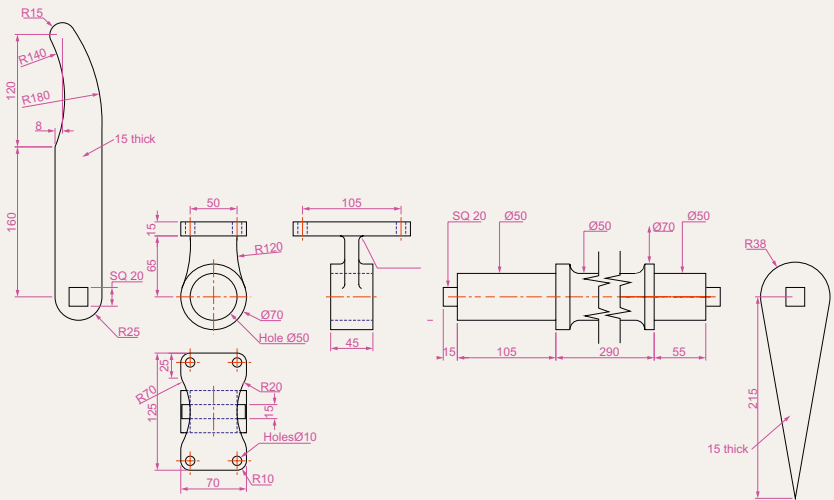
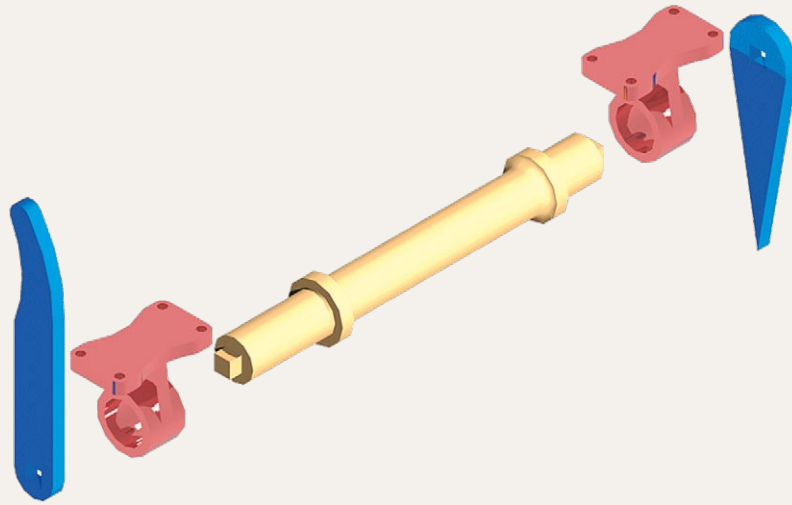

Fig. 19.26 Exercise 5 – details drawing
Fig. 19.27 Exercise 5 – exploded rendered view
- 5. Working to the details shown in Fig. 19.26, construct an assembled 3D model, with the parts in their correct positions relative to each other. Then separate the parts as shown in the 3D rendered model drawing (Fig. 19.27). When the 3D model is complete add suitable lighting and materials and render the result.